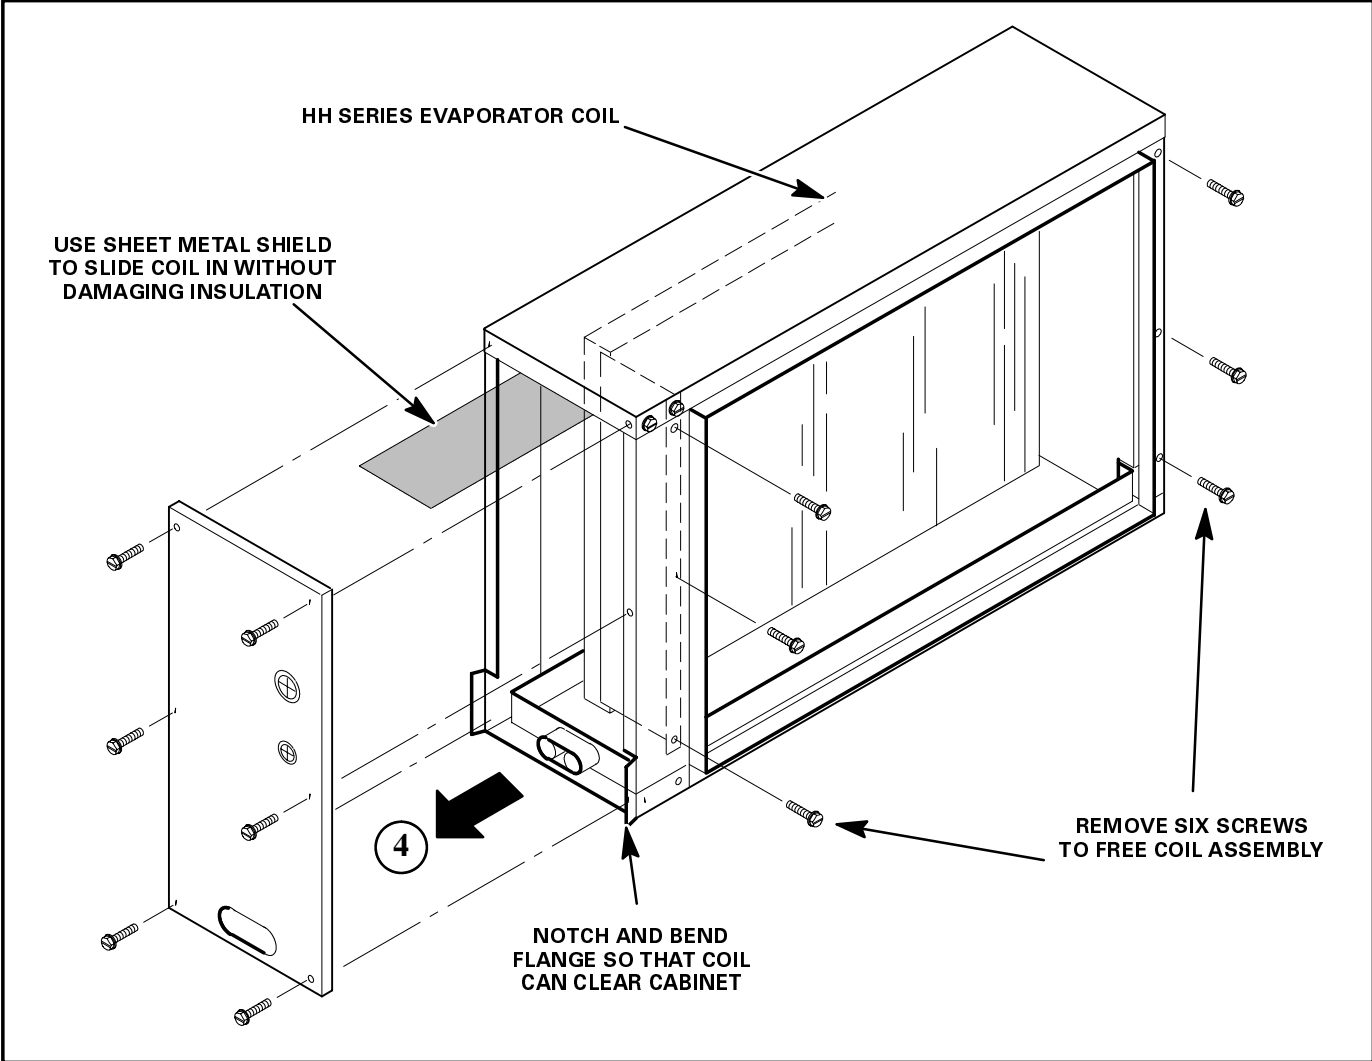

FIGURE 1
- 4- Remove six screws securing coil to cabinet. See figure 1.
- 5- Cut or notch bottom of two vertical flanges as shown in figure 1.